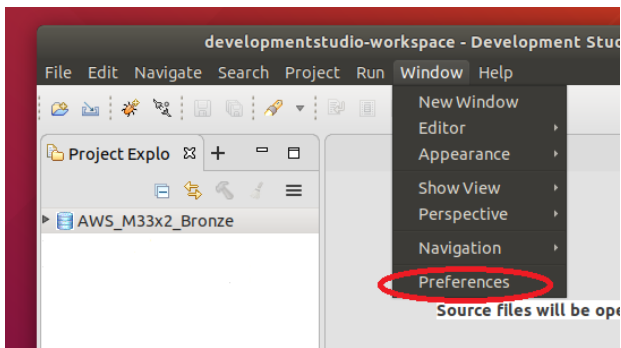

Figure 6 Rebuilding imported configuration database
4. Select Window -> Preferences as shown in Figure 6 Rebuilding imported configuration database